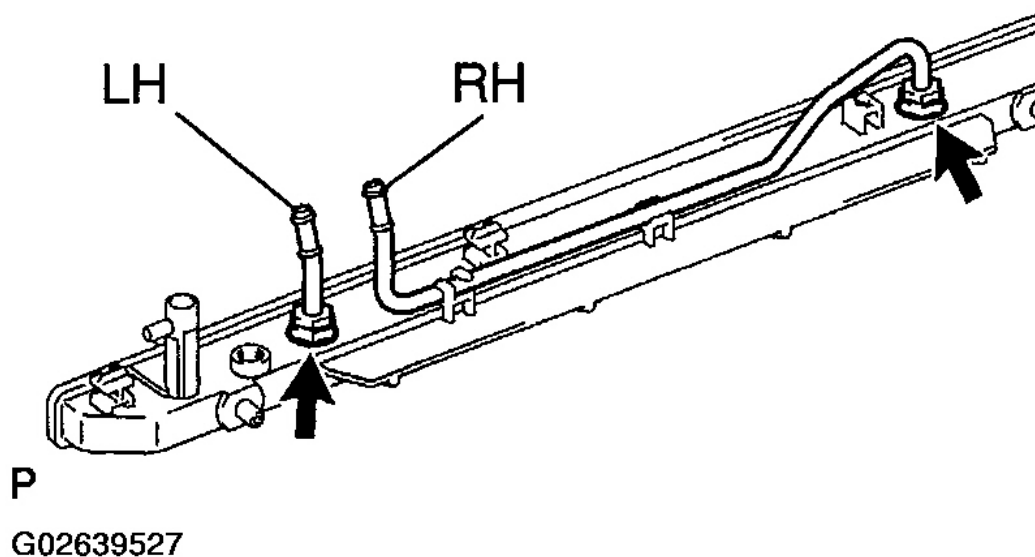

Fig. 31: Installing Oil Cooler Pipes To Lower Tank
- Install the LH cooler pipe in the direction indicated. See **Fig. 31**.